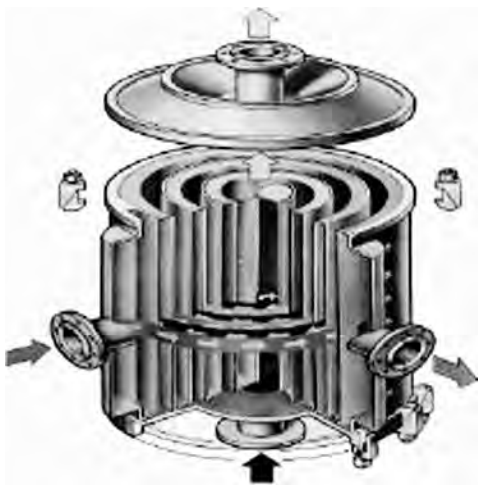

FIGURE 13.17 Spiral heat exchanger. (Courtesy: Alfa Laval.)
- In *Type 1 Alfa Laval design*, fluids are in full countercurrent flow. The hot fluid enters at the center of the unit and flows from the inside outward to the periphery, where it exits through a connection welded to the shell. The cold fluid enters through a peripheral connection and flows toward the center and exits through a center connection. Figure 13.17 illustrates the Type 1 Alfa Laval spiral heat exchanger.